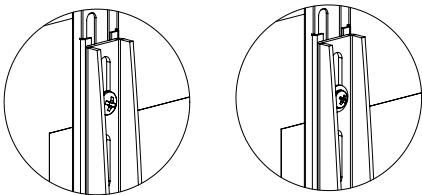

Figure 18 - LEFT: M8 - RIGHT: M6 with washer
4. If your display takes size M6 screws, use the M6x25mm screws to mount the brackets. If your display takes size M8, use the M8x30mm screws. When using the M6, you must also use the metal washer (figure 18). If the screws used to install your VESA brackets are longer than our provided size, you may reuse them.